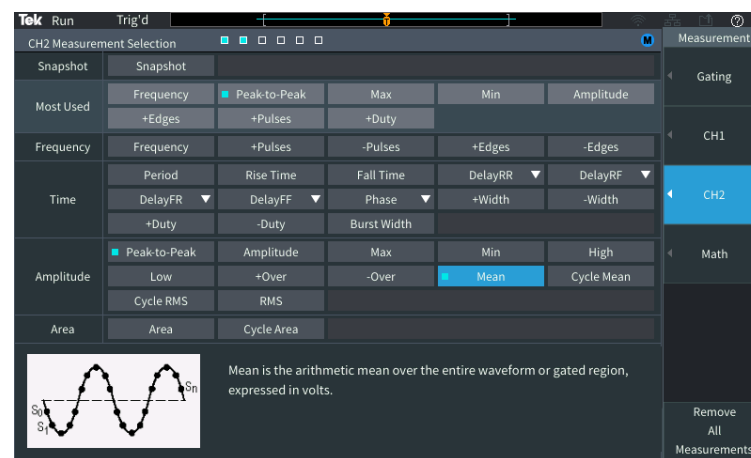

Figure 12. Peak-Peak and Mean measurements selected for Channel 2. Note the two blue boxes in the measurement selection indicator at the top of the display.
6. Press the **CH2 bezel button**. Scroll and press **MPK** to select **Peak-Peak** and **Mean** for Channel 2 (Figure 12).